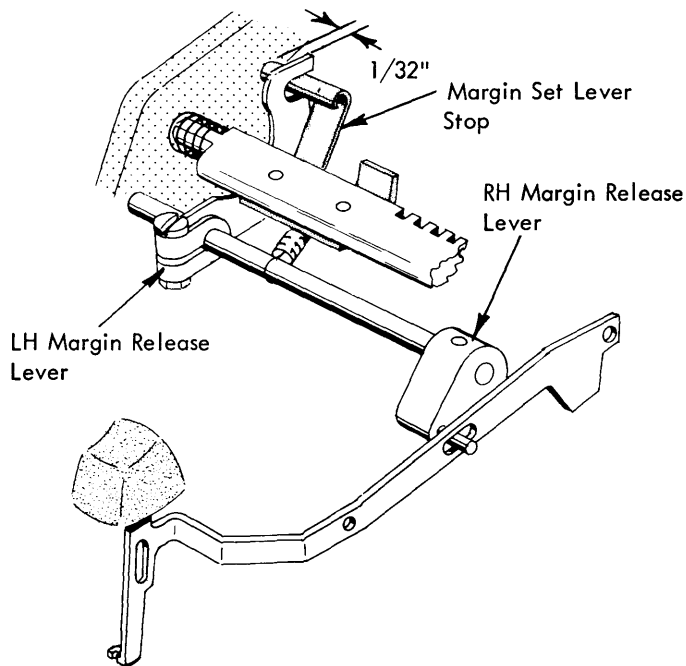

FIGURE 174. Margin Release Mechanism (723 & 725 New Style)
1. Laterally so that 1/32" of the top surface of the margin set lever stop protrudes beyond the left face of the left hand margin release lever (Fig. 174).